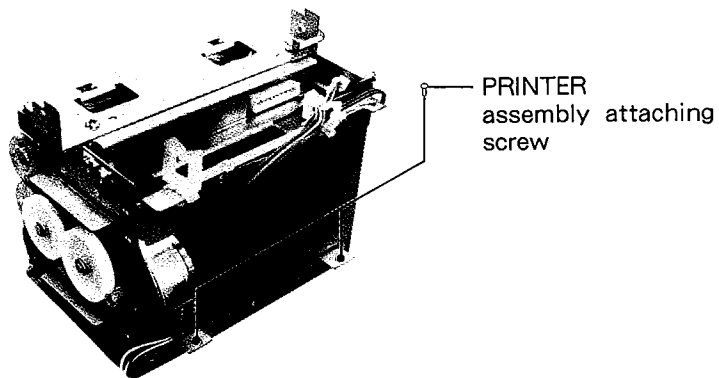

Fig. 8
8. Remove the screws securing the PRINTER UNIT (Fig. 8)